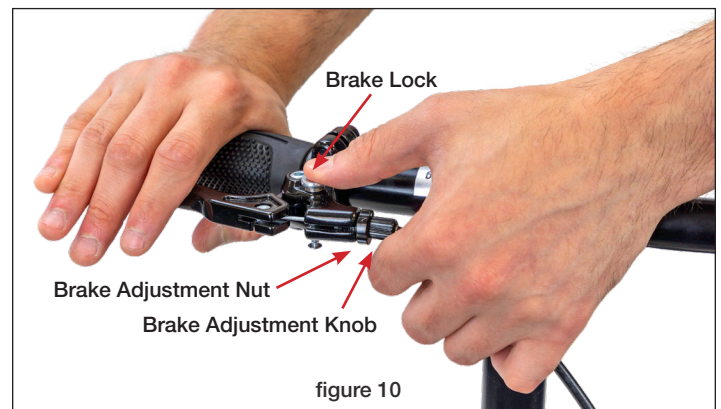

figure 10
2. Lock the brake in place by squeezing the hand brake and pushing down on the spring-loaded brake lock button on top of the hand brake at the same time (fig 10). When you remove your hands, the button should remain down and locked in place.
- Locate the brake adjustment knob on the hand brake (fig. 10). Turn the knob counterclockwise to increase the braking strength. Turn the knob clockwise to decrease the braking strength. Keep the brake adjustment nut tight against the hand brake.
- Always engage the hand brake lock before getting on or off the knee scooter (fig. 10).